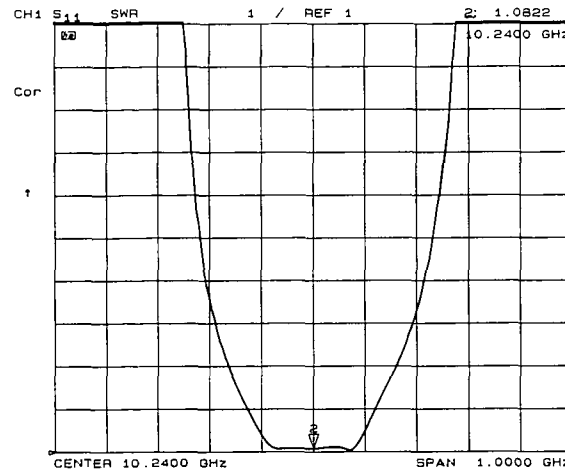

Figure 4-16. Typical SWR Display
**[SWR]** (SWR) reformats a reflection measurement into its equivalent SWR (standing wave ratio) value (Figure 4-16). SWR is equivalent to  $(1 + \rho)/(1 - \rho)$ , where  $\rho$  is the reflection coefficient. Note that the results are valid only for reflection measurements. If the SWR format is used for measurements of S21 or S12 the results are not valid.